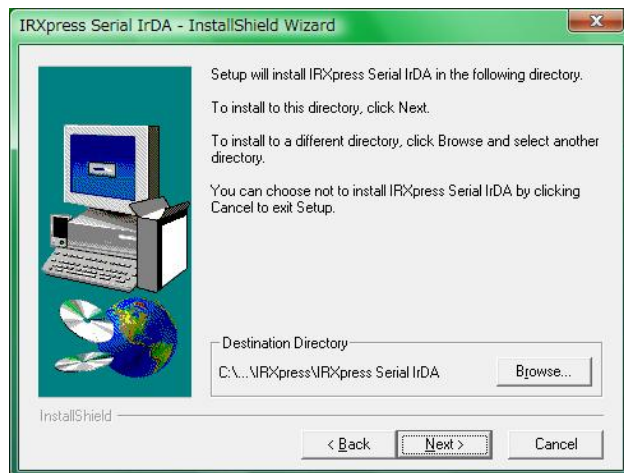

Figure 5.26
4. Specify your own installation path of destination directory in Figure 5.26 otherwise the default and click **Next >** button. The confirmation screen below appears.